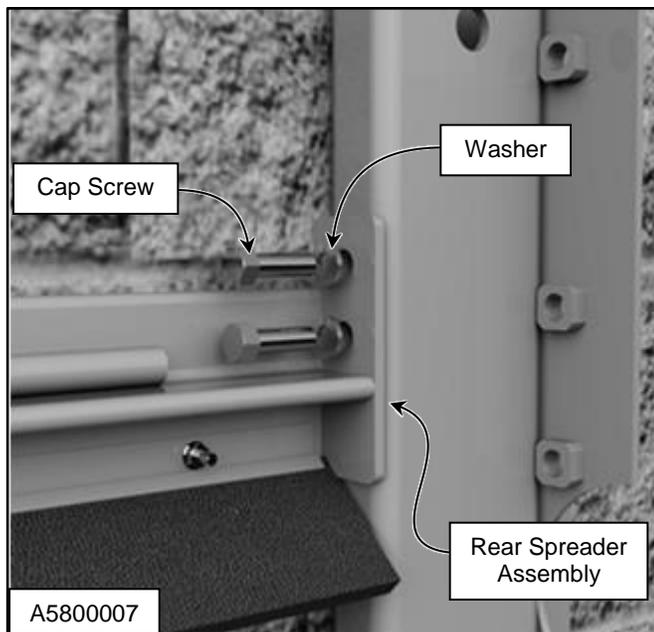

Figure 13
6. Install rear spreader assembly between the two side columns using four  $\frac{1}{2}$  x 1-in. hex head cap screws and  $\frac{1}{2}$ -in. lock washers. (See Figure 13)